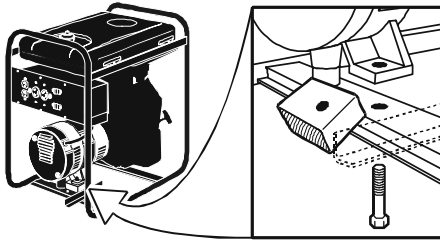

Figure 1
- **(if equipped)** Remove shipping block from under the generator head by unscrewing the bolt and remove the wood block. It is very important that this is removed before starting your generator. See Figure 1.